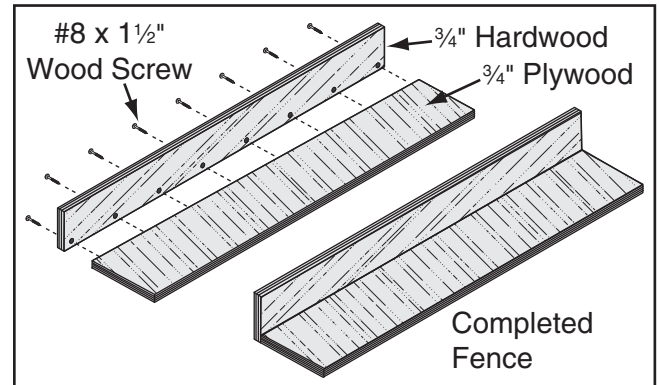

Figure 89. Location of pilot holes.
2. Pre-drill and countersink eight pilot holes $\frac{3}{8}$ " from the bottom of the 3" wide board, then secure the boards together with eight #8 x $1\frac{1}{2}$ " wood screws, as shown in **Figure 89**.